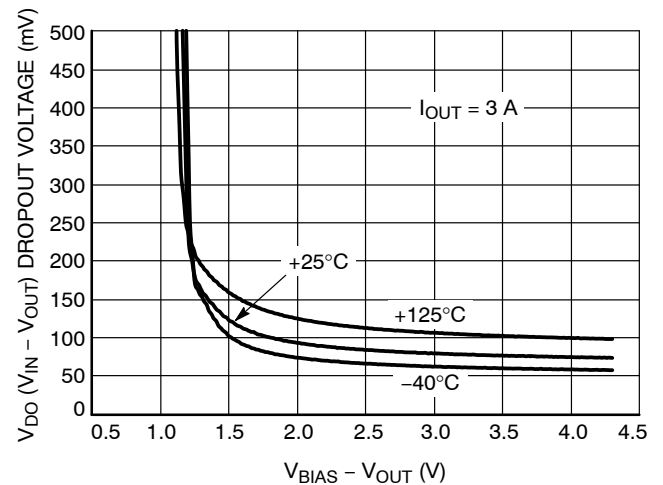

Figure 8.  $V_{IN}$  Dropout Voltage vs.  $(V_{BIAS} - V_{OUT})$  and Temperature  $T_J$
- 3.25 V is a test condition of this device and can be adjusted by referring to Figure 8.